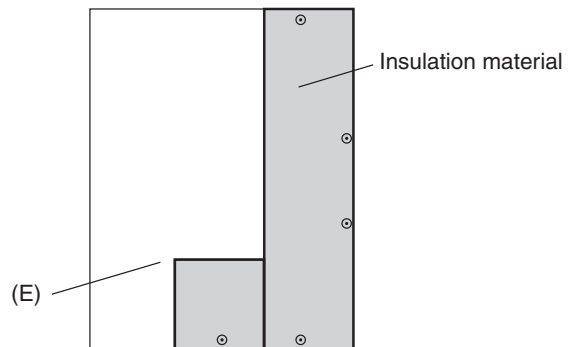

Fig. 6
- To avoid dew condensation, use insulated screws in the places marked with circles in Fig. 6.